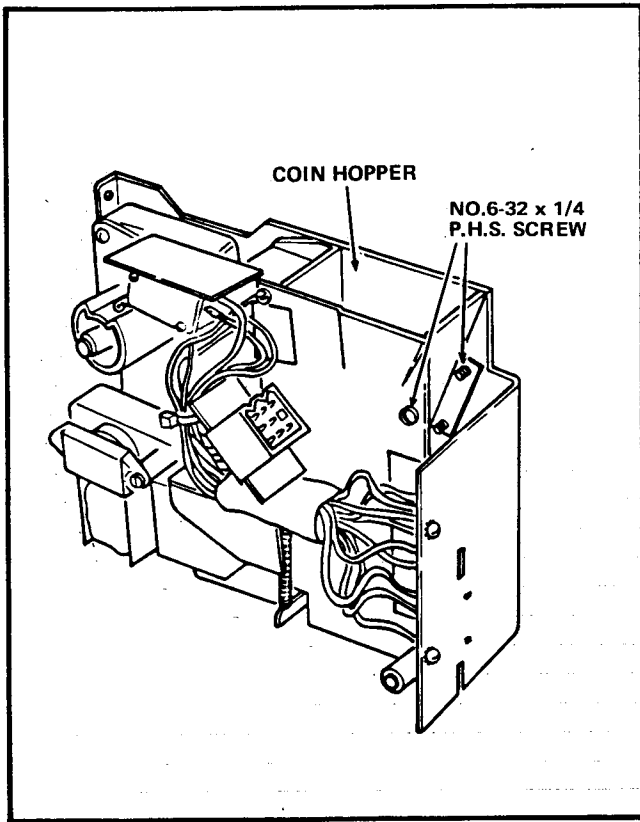

FIGURE 3
1. Place the Escrow Unit Assembly on a flat surface in an upright position. Remove the two Screws shown in Figure 3.